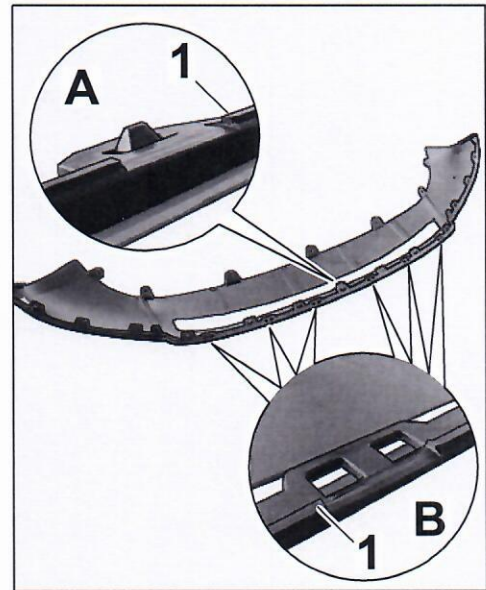

Figure 7
- 2.1.2 Remove edge of front spoiler close to the six mounting points (⇒ *Figure 7 -inset A-*) and centre of front spoiler (⇒ *Figure 7 -B-*) using a Stanley knife.